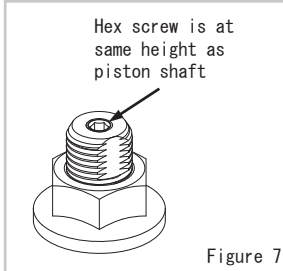

Figure 7
- Apply the grease (red, included in the motor kit) to the inner thread and gold hex bolt's threaded part and inside of the hex hole. Then, put the gold hex bolt until its top becomes flush with the top surface of the shaft (Figure 7).